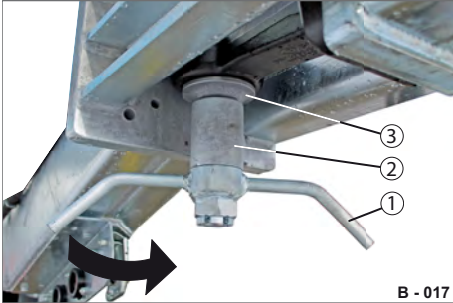

Fig. 16 Towing eye locked at bottom
- ▶ Unscrew the wing nut (Fig. 16/1) completely.
- ▶ Remove the spacer sleeve (Fig. 16/2) and the shield rest (Fig. 16/3).